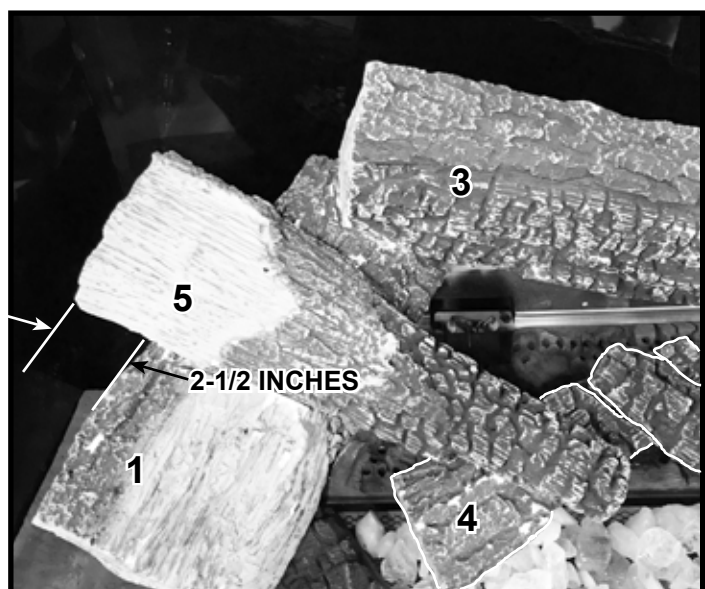

Figure 11 Place Log #5 (LOGS-8K / LOGS-8KX / LOGS-8-BIR)
**LOGS-8K / LOGS-8KX / LOGS-8-BIR:** Place the large end of Log #5 on the flat area of Log #1, highlighted in Figure 3.A. The other end rests on the flat area of Log #4 as referenced in Figure 7. Approximately 2-1/2 inches of Log #5 will exceed the edge of Log #1 as noted in Figure 11.